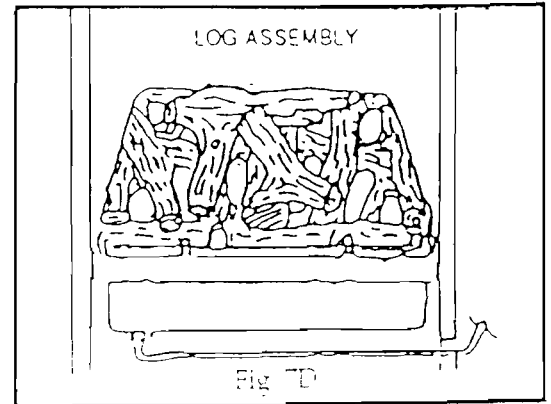

Fig. 7D
- (iii) Locate log number 1 as shown in Fig. 7D. Ensure that it is retained by the peg on the log bed. Then locate log number 2 in a similar manner.